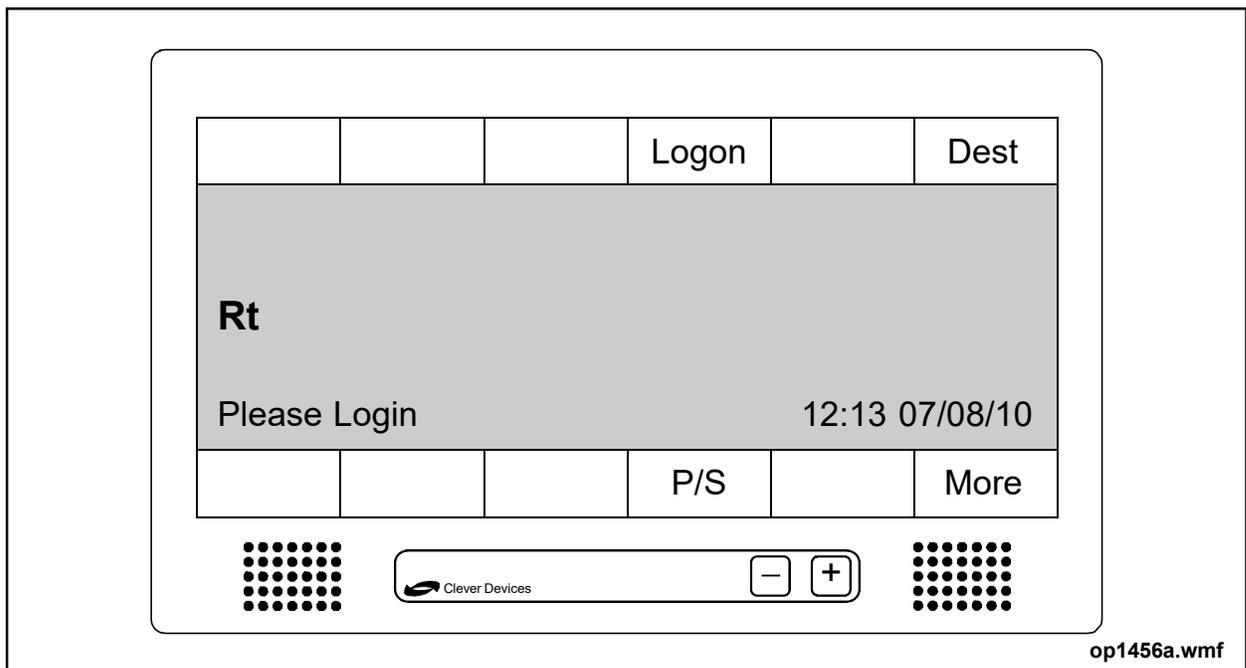

Figure 19: Operator Login Screen
- Start the vehicle and close all doors. The Operator Login screen will be displayed. See “Figure 19: Operator Login Screen” on page 53.